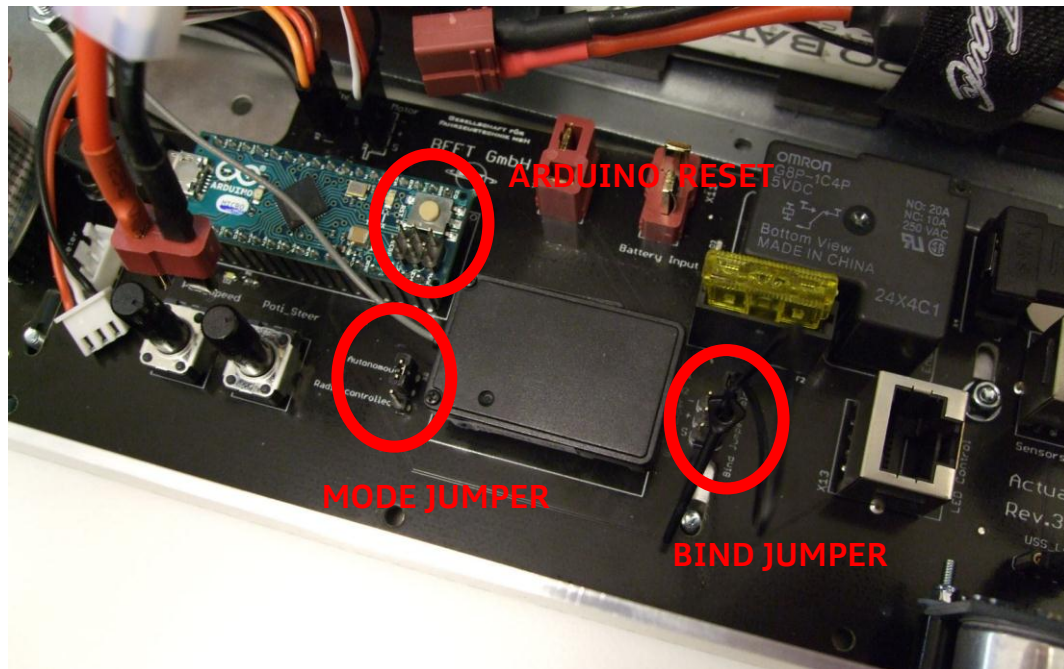

Figure 40 Deactivate Radio Controller
1. Set the Mode Jumper to *Autonomous* as shown in Figure 40.